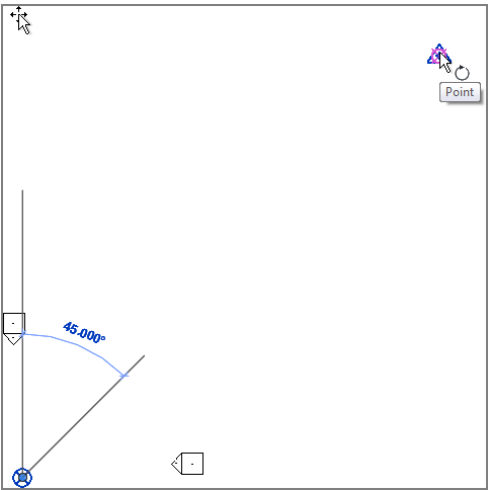

FIGURE 18.30: Finalizing the rotation
3. Pick the node on the Survey point, as shown in Figure 18.30.
4. Pick a second point at 45° left (which lands you straight up—see Figure 18.30). Your site view is now facing true north, and all your other views are project north.